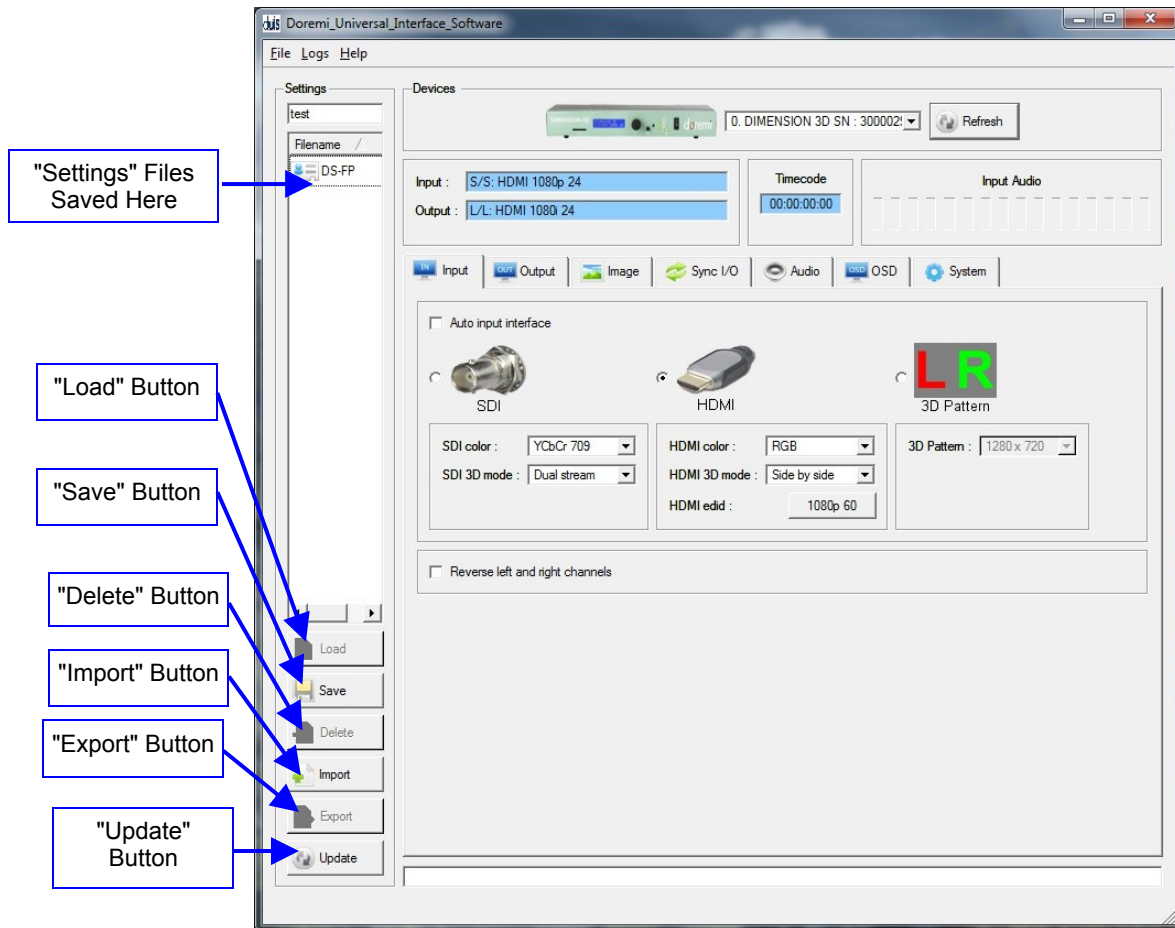

Figure 11: Doremi Universal Interface GUI – Settings Window
- To save the current "Doremi Universal Interface" settings into a file enter a settings file name in the top left corner field as shown below and then click “Save” (Figure 11).
- To export a saved “Settings” file to use for another Dimension-3D device, select it in the “Settings files” area and click on the “Export” button (Figure 11).
- The user will be asked to confirm where to export the file using a standard “Save as” dialog box (Figure 11).
- To import an existing “Settings” file from a “.ghx” file to the connected unit click on the “Import” button (Figure 11).
- To delete a settings file present in the “Settings files” area select it and click on the “Delete” button (Figure 11).
- Click on the “Update” button to update the “Settings” window to reflect the content of the folder where all the “Settings” files are stored (Figure 11).